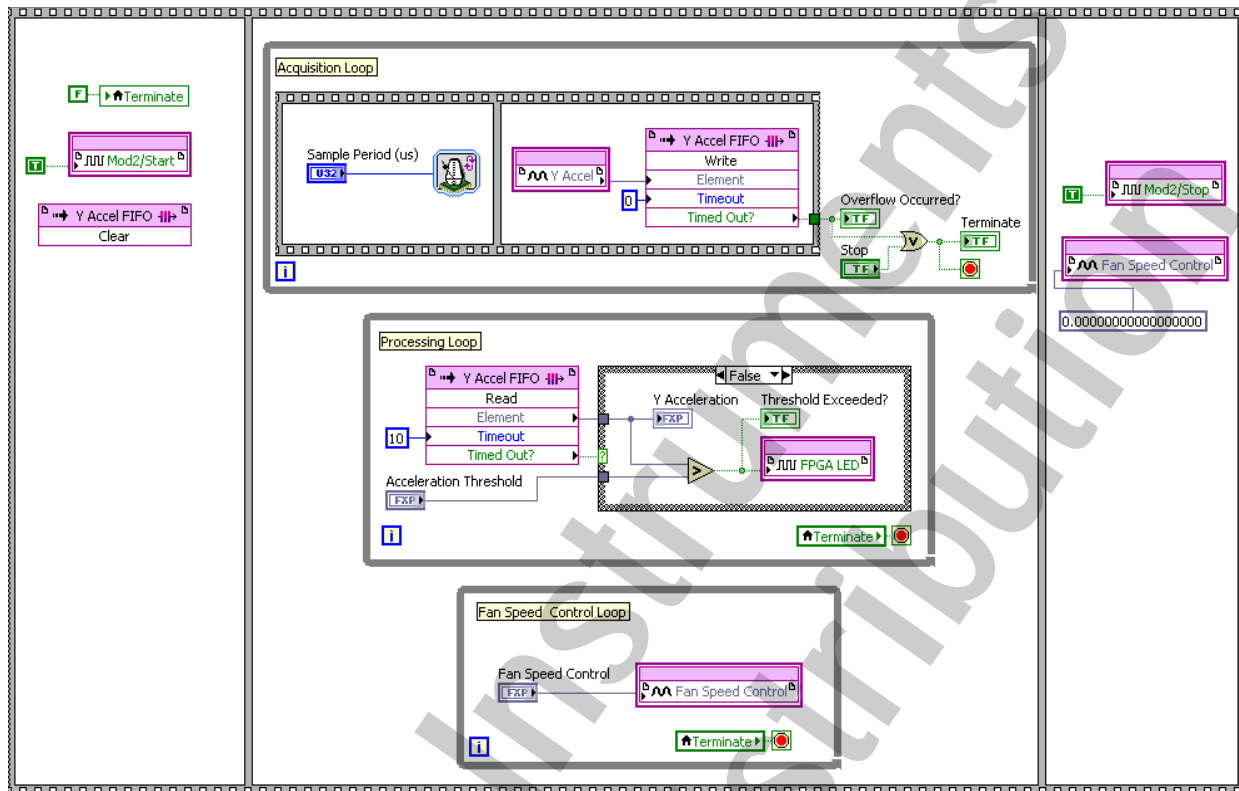

Figure 6-7. Accelerometer.vi – Block Diagram
10. Modify the block diagram of the Accelerometer VI, as shown in Figure 6-7, using the following items: